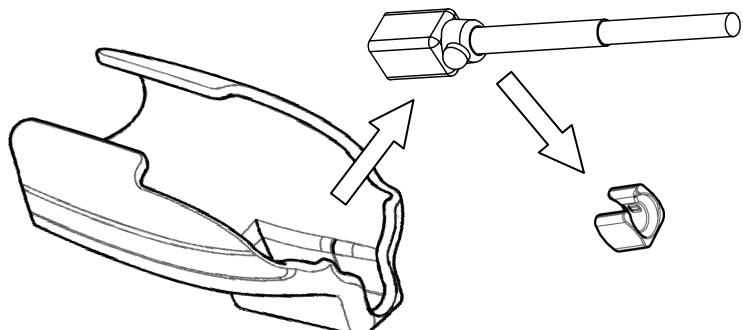

Fig.7 How to release the Magnetic sensor
- 2) Release the magnetic sensor from the magnetic sensor attachment as shown in Fig.7 and release the spacer for EZU-RV2S from the magnetic sensor.